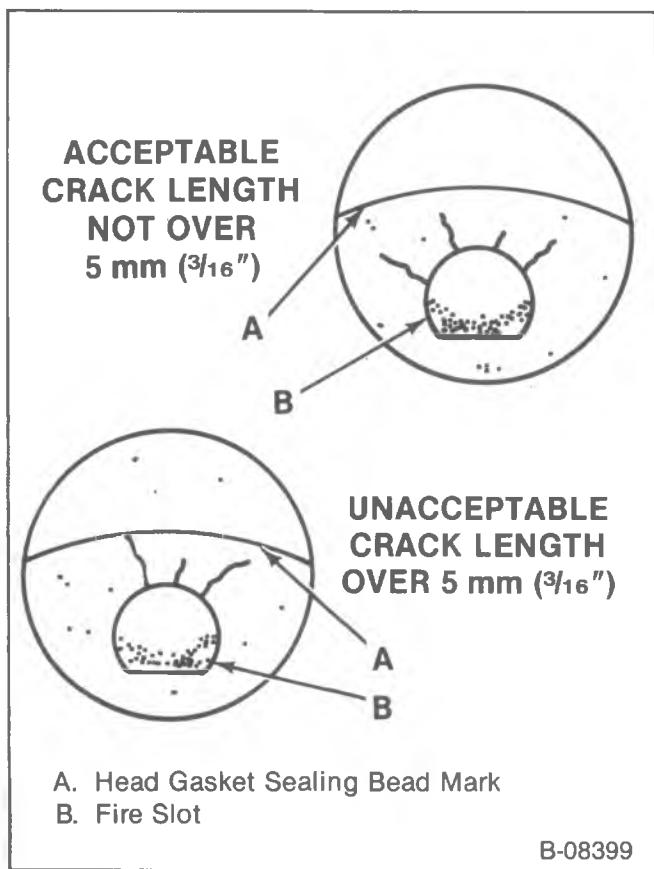

Figure 23—Prechamber Inspection
Inspect (Figure 23)
- Pre-chambers for cracks. Replace any pre-chambers with facial cracks longer than 5 mm (3/16-inch) (figure 23). Service pre-chambers are available in standard and 0.254 mm oversize.